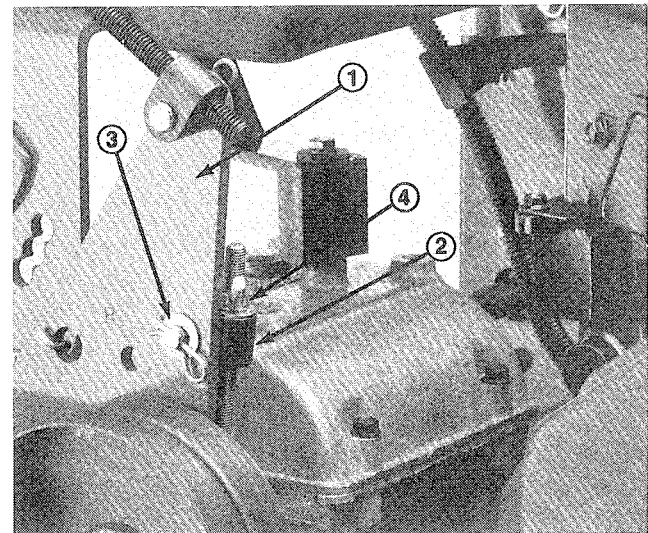

Figure 11
6. If an adjustment to brake rods is required, remove hairpin cotter and washer securing brake rod fitting to idler bracket (Fig. 11).